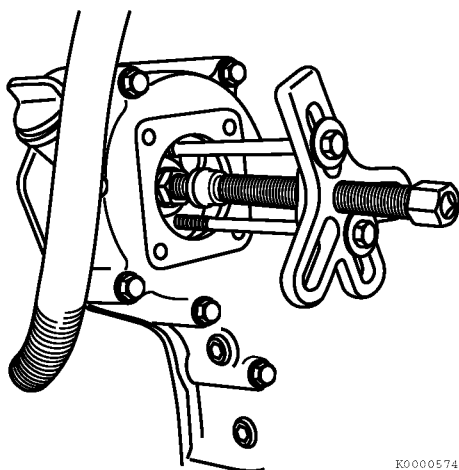

Figure 7-17
19. Remove the pump drive gear and hub as an assembly using an appropriate two-bolt gear puller (**Figure 7-17**).